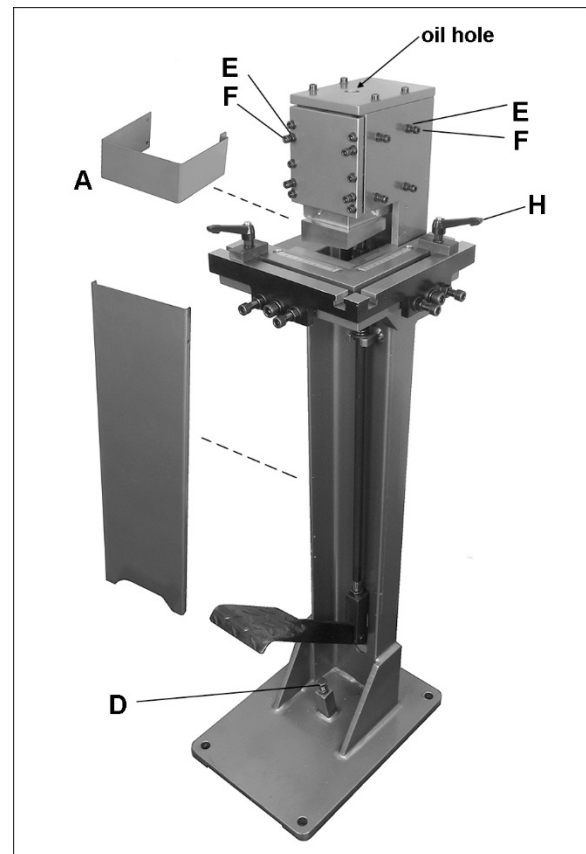

Figure 6-1 (shown with guards removed; all guards must be installed before operating)
4. Insert oil into hole atop cutting head (see Figure 6-1).
See Figures 6-1 and 6-2 (shown with table mounted on right side of cutting head).
1. Remove blade guard (A, Figure 6-1).
- Reinstall blade guard (A, Figure 6-1).
Should future adjustment be needed, loosen hex nut and turn stop bolt (D, Figure 6-1) as needed. Retighten hex nut against block to secure setting.
Normal wear on the ram may cause need for future adjustment. Loosen any of the eight nuts (E) and turn screws (F, Figure 6-1) at front and side as needed to modify drag on ram block. The ram should slide smoothly up and down with just enough drag to prevent shifting or free falling.
- Remove blade guard (A, Figure 6-1).
To adjust T-stop handles (H, Figure 6-1) to more convenient position: pull up on handle and rotate, then release, making sure handle settles back onto pin.